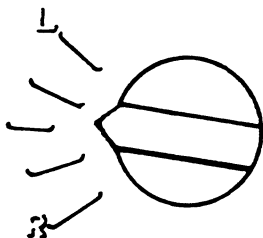

FIGURE 19. INITIAL START ADJUSTMENT
1. Set main power mixture to position shown in Figure 19.
2. Run engine at maximum throttle at normal rpm for ten minutes, or set main power mixture near mark between L and R as shown in Figure 19.
1. Run engine at open throttle for normal maximum rpm for ten minutes or set main power mixture at mark between L and R as shown in Figure 19.